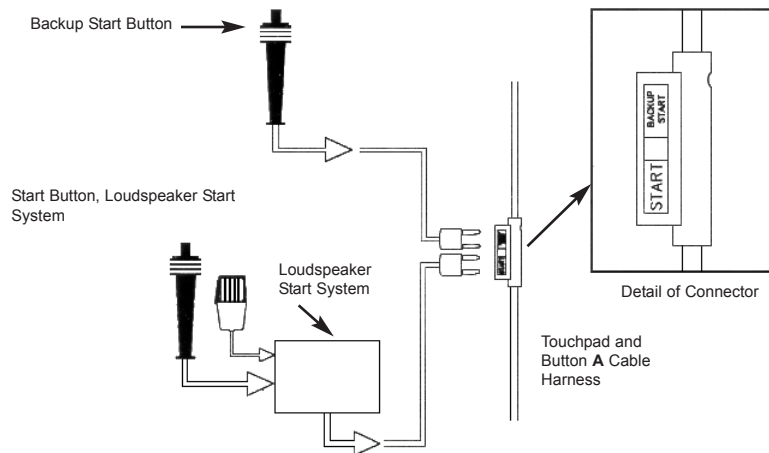

Figure 2-A Start System Connections
- 1) To set up a loudspeaker start system, place the start console a safe distance from the pool and plug in the microphone. Route the loud speaker cable harness along the edge of the pool and connect the speaker(s) to the harness, as shown in Figure 2-G
- 2) Connect the cable from the start system to the start connection on the touchpad and button A cable harness as shown in Figure 2-A, or to the start connector on your in-deck wiring system.